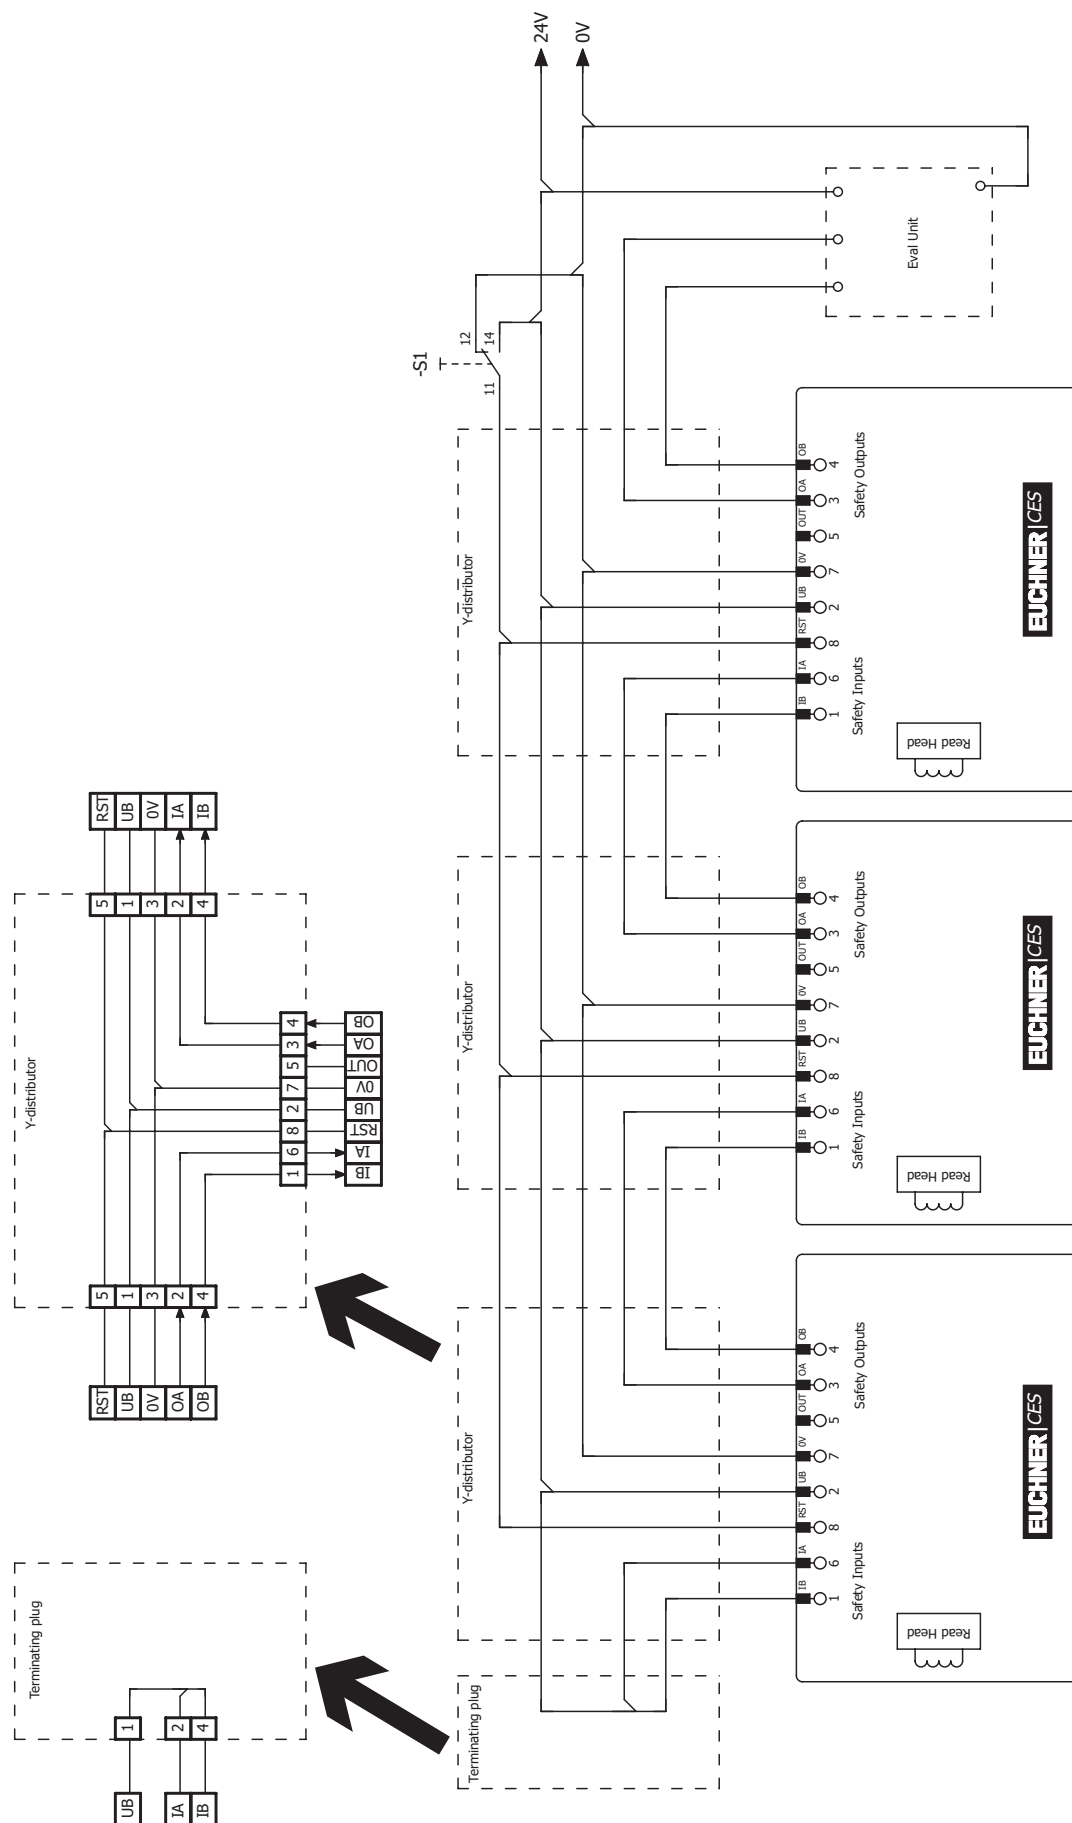

Fig. 4: Connection example for series connection with reset and changeover switch
- › A common signal must be used for all switches in the chain. This can be a changeover switch or the output of a control system. A pushbutton is not suitable because the reset must always be connected to GND during operation (see switch S1 in *Fig. 4 on page 20*).
The RST input must be connected as shown in *Fig. 4 on page 20* to permit this.